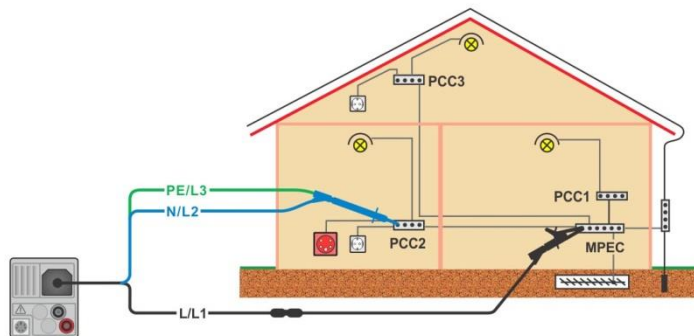

Figure 7.20: Connection of 3-wire test lead plus optional Extension lead
- › Connect test leads, see **Figure 7.20**.